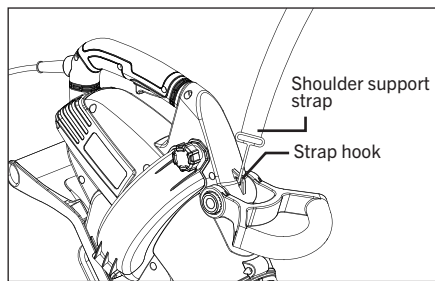

FIG. 1
1. Clip the shoulder support strap to the strap hook on the top of the blower, as shown (Fig. 1).